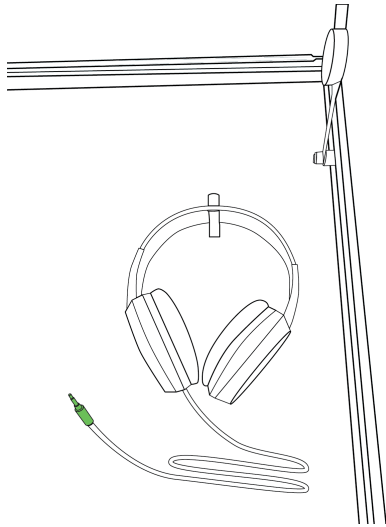

Figure 6-59. Headphones secured to the holding clip
3. Plug the headphones into the auxiliary port located on the back right side of the touchscreen and secure the headphones to the holding clip (Figure 6-59).